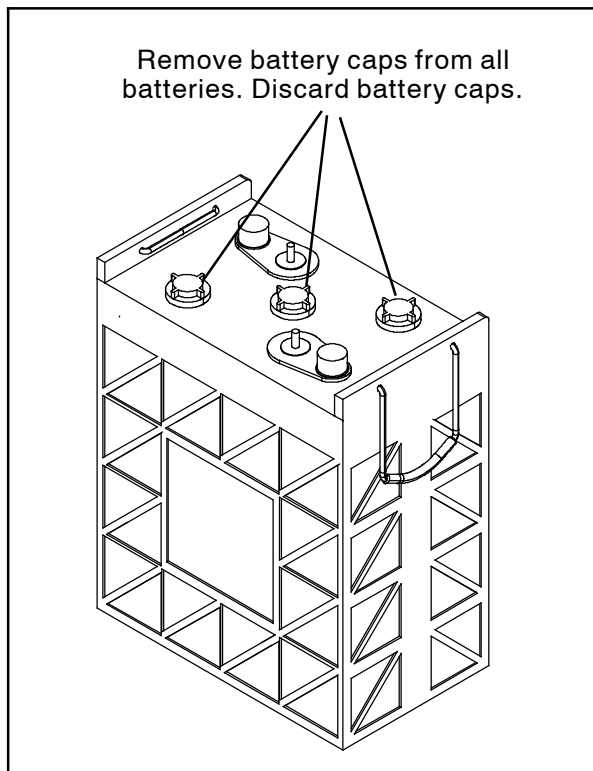

FIG. 1
1. Remove all the caps from all the batteries. Discard the battery caps. (Fig. 1)